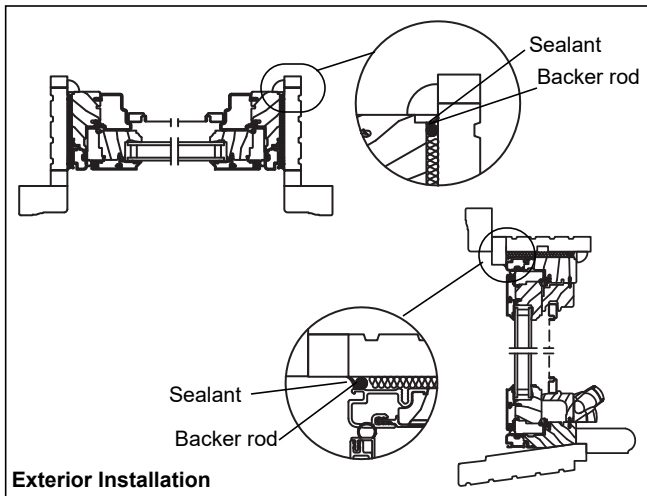

Figure 11
- For **exterior installed applications**, apply a backer rod between the insert frame and existing window frame at the head and side jambs. Place a bead of sealant over the backer rod so that it contacts both the insert frame and existing window frame. If necessary, trim out units with frame expander. See figure 11.